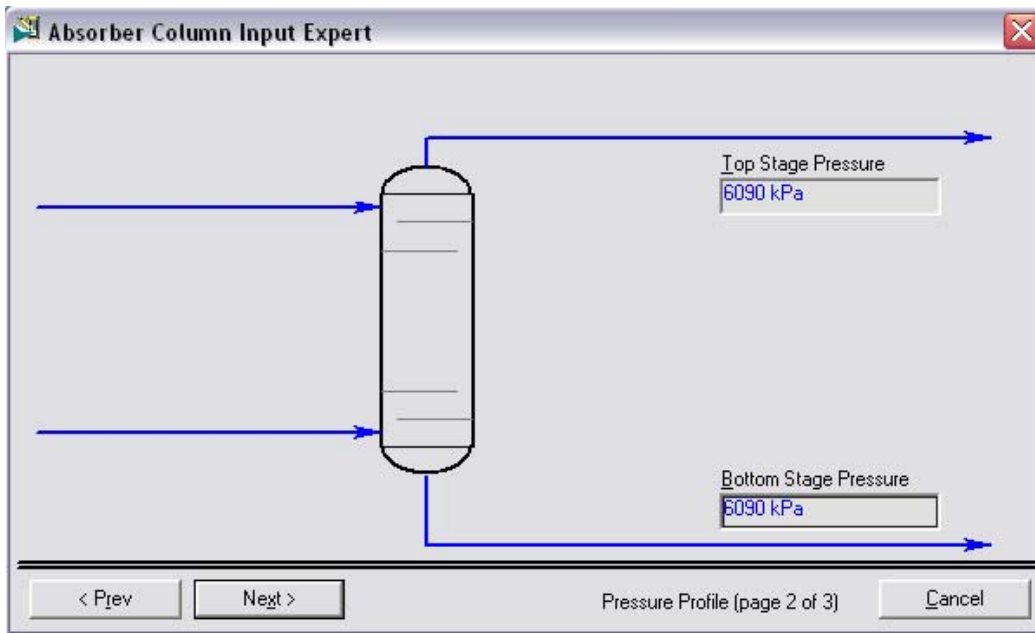

Figure 11-2
3. Click **Next**, and then enter the following information as shown in Figure 11-2.